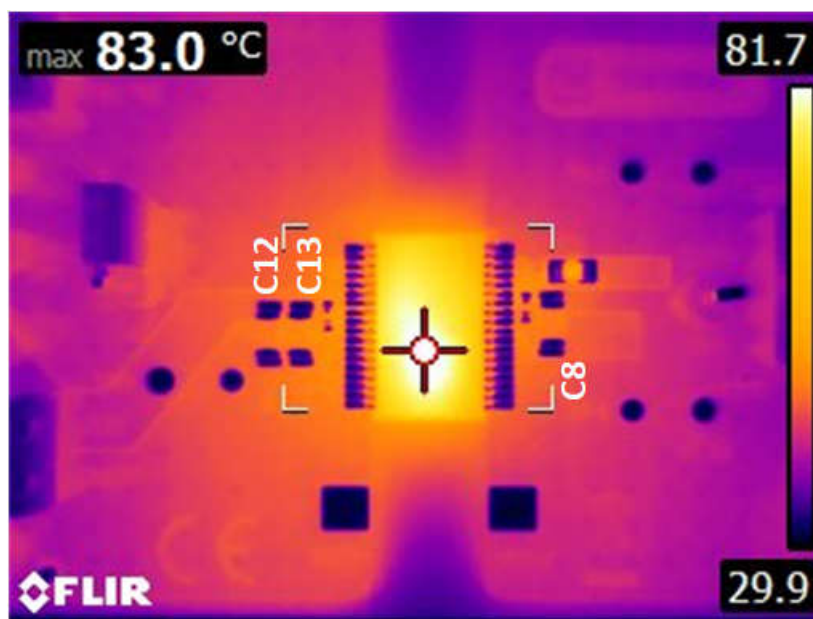

Figure 12-25. Thermal Image
- f. As seen in Figure 12-25, there is a point of diminishing return, regarding the number of vias and size of the thermal via array. For 1.5-W of output power, heat transfer is shown to quickly diminish just beyond C12 and C8. The distance from the inner pad line of U1 to C12 is 320 mils.